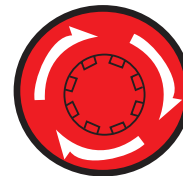

Figure 55. Emergency Stop Button
1. To stop the engine in the event of an emergency, push the **Emergency Stop Pushbutton Switch** (Figure 55). Activating the Emergency Stop Switch will cause the contacts on the main breaker to **OPEN**.